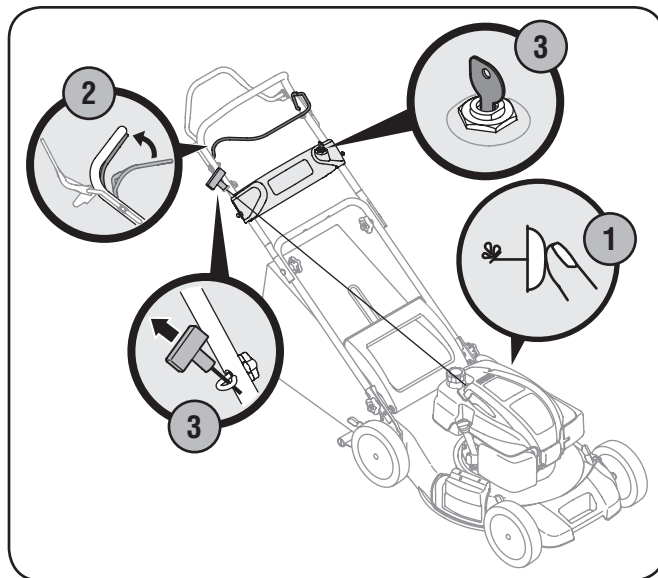

Figure 10-3
1. Push primer 3 times. Wait about two seconds between each push. See Fig. 10-3. In temperature below 50°F, prime 5 times. After the engine is warmed up, one prime may be needed for all temperatures.
3. **Recoil Start:** Pull the recoil starter lightly until resistance is felt, then pull rapidly to overcome compression, prevent kickback, and start the engine. Repeat if necessary. See Fig. 10-3.
Electric Start: Turn ignition key to the right to start the engine. Release the key after the engine starts. See Fig. 10-3.